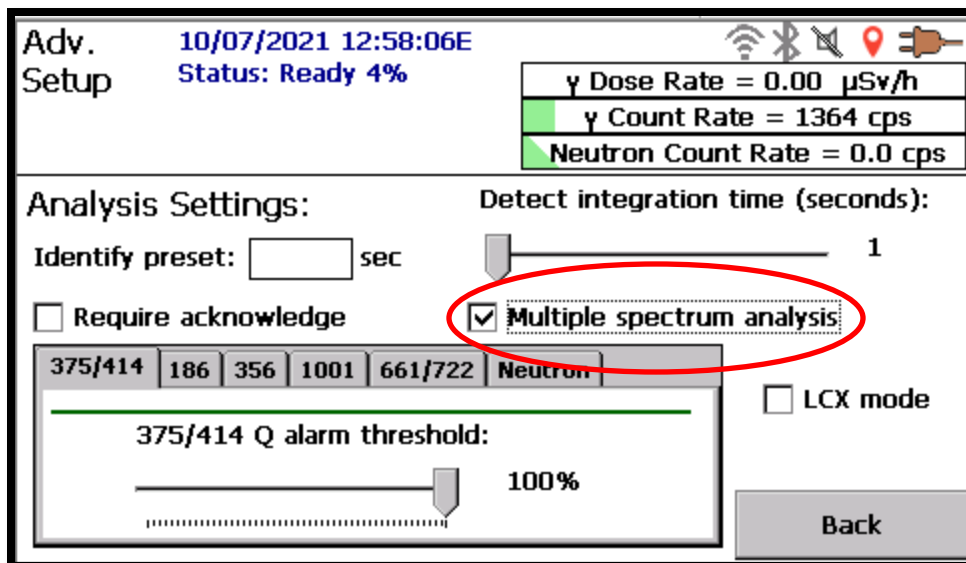

Figure 67. Enable Collection of Multiple Spectra in a Single File
- On the Advanced Setup screen, tap **Analysis** to open the Analysis Settings page, then tap to mark the **Multiple spectrum analysis** checkbox (see Figure 67).